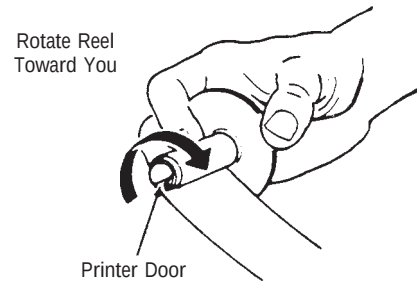

**Figure 5-18**
7. Insert the pointed end of the paper into the slot of take-up reel and rotate in the direction shown to secure the paper in the slot (Figure 5-18).